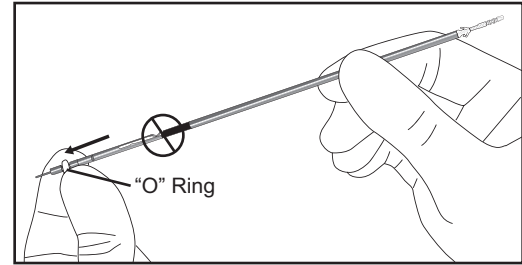

Figure 13: Correct Direction to Slide the "O" Ring
6. Gently slide the protective "O" ring on the loader into the notch on the proximal end of the loader (see Figure 13).